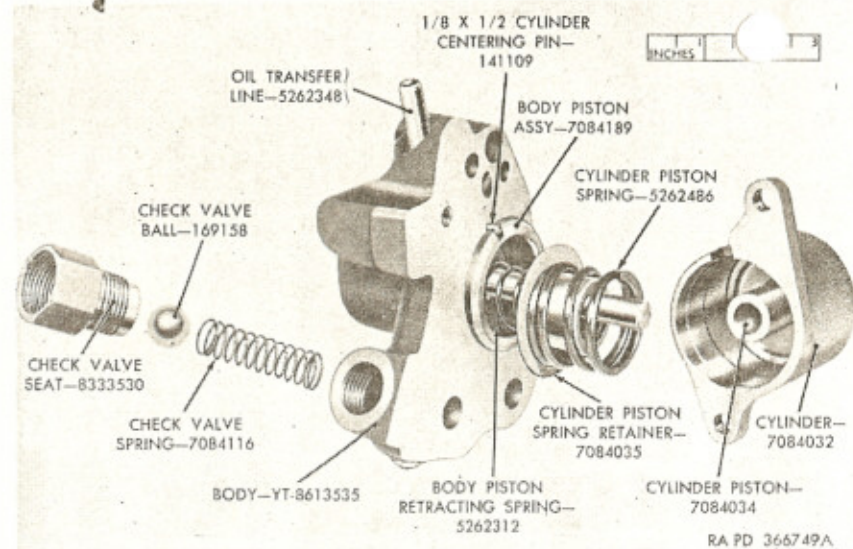

Figure 76. Assembling front servo (301MG shown).
e. Compress body piston oil seal ring (H) on body piston assembly (G) and work piston into body (K). Locate groove in body piston assembly at cylinder centering pin (M) (fig. 76).
f. Position body piston retracting spring (F), cylinder piston spring retainer (E), and cylinder piston spring (D) over stem of body piston assembly (G).
g. Aline notch in cylinder (A) with cylinder centering pin (M); then carefully guide cylinder piston spring (D) and stem of body piston assembly (G) into bore of cylinder.
h. Aline drilled bosses on cylinder (A) with tapped holes in body (K). Seat cylinder squarely on body. Install two $\frac{1}{4}$ x $\frac{3}{4}$ bolts (S) and $\frac{1}{4}$ -inch lockwashers (R). Tighten bolts to 6 to 8 pound-feet torque.